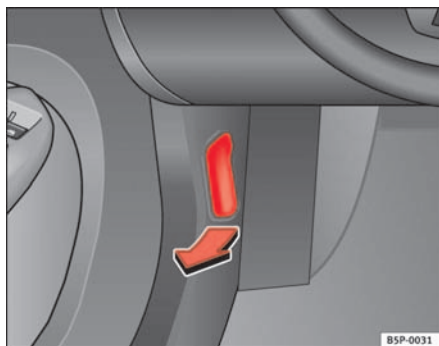

Fig. 133 Detail of the footwell: The release lever for the bonnet is located in the driver side footwell
- To release the bonnet, pull the lever under the dashboard ⇒ **fig. 133** in the direction indicated (arrow). The bonnet will be released by a spring action ⇒ .